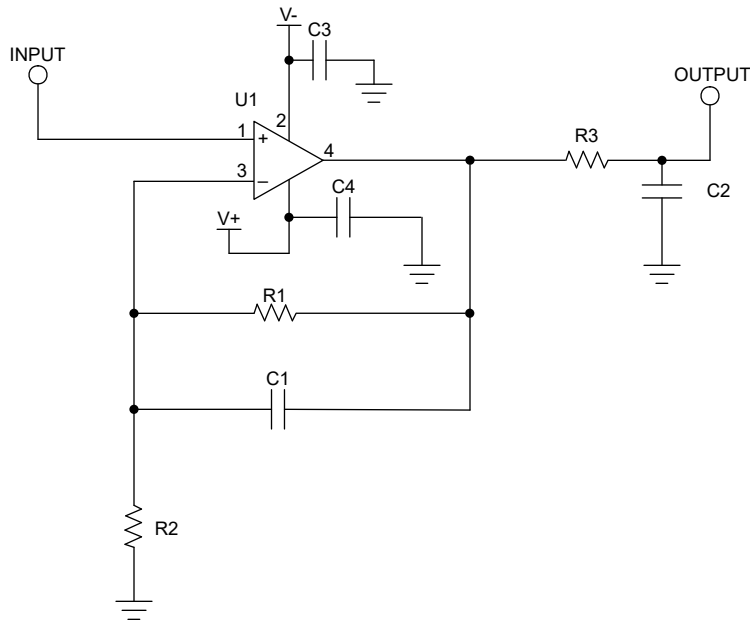

図 7-3. Schematic for Noninverting Configuration Layout Example
Place 0.1 μF bypass capacitors close to the power-supply pins to reduce errors coupling in from noisy or high-impedance power supplies. For more-detailed information on bypass capacitor placement, see Figure 7-3.
- Place the external components as close to the device as possible. As illustrated in Figure 7-3, keeping R_F and R_G close to the inverting input minimizes parasitic capacitance on the inverting input.